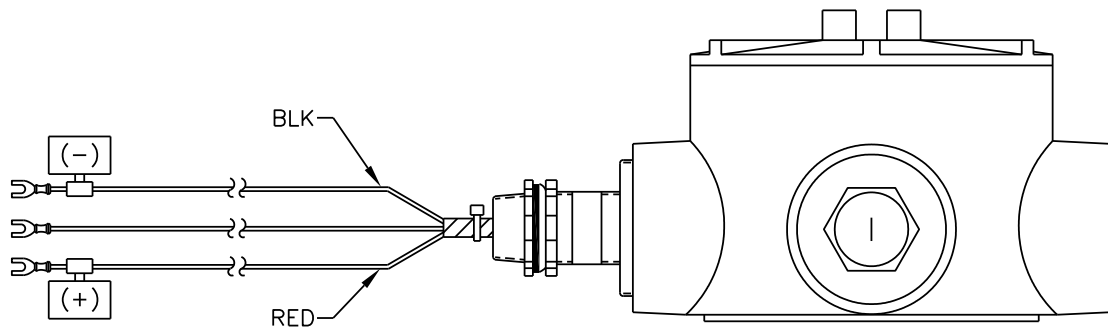

Figure 59 DC Wiring Instructions
3. Connect the ac charger unit to the flow computer using the supplied sealing ring and nut (see Figure 59).